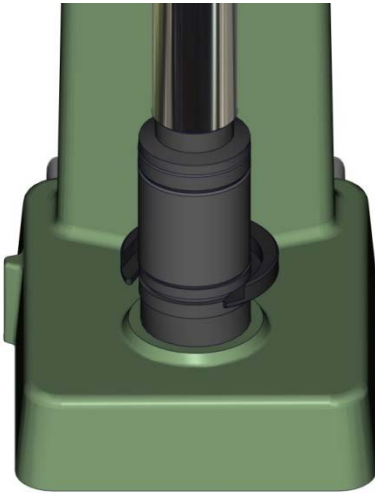

Figure 11: Compressing the 10mm calibration block, 50mm calibration block, pedestal and collar onto the pedestal support
9. Depress the control handle downwards until compacting head is stopped against the 10mm calibration block as shown in Figure 11.
14. Depress the control handle downwards until compacting head is stopped against the 10mm calibration block as shown in Figure 11.